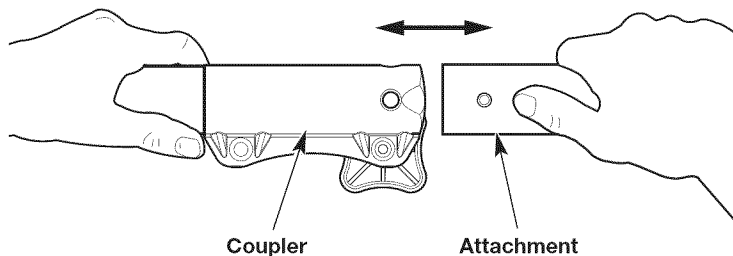
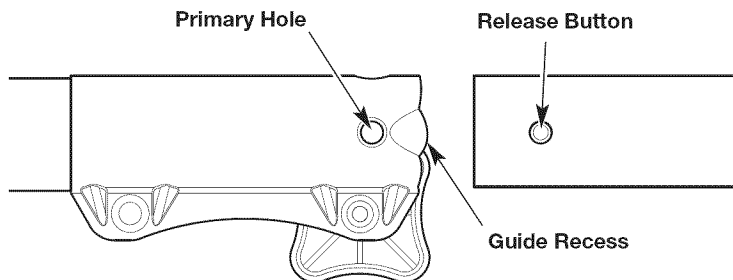

Fig. 4
Fig. 5
4. Align the release button with the guide recess (Fig. 5).
5. Push the attachment straight into the coupler (Fig. 4) until the release button snaps firmly into the primary hole (Fig. 5).
3. Press and hold the release button (Fig. 5).
4. Pull the attachment straight out of the coupler (Fig. 4).
2. Press and hold the release button (Fig. 5).